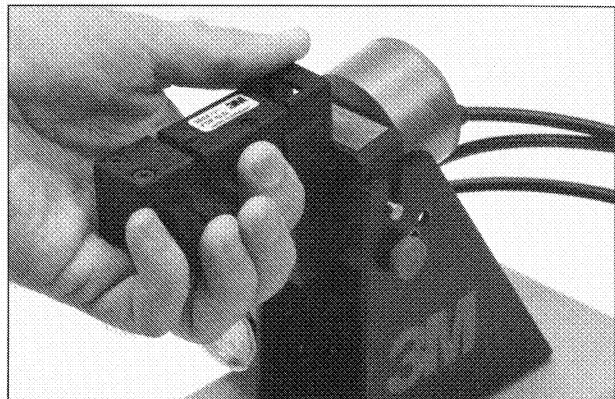

Figure 1
1. After determining the proper assembly head, slide the head down onto the mounting block until the head locks (Figure 1).